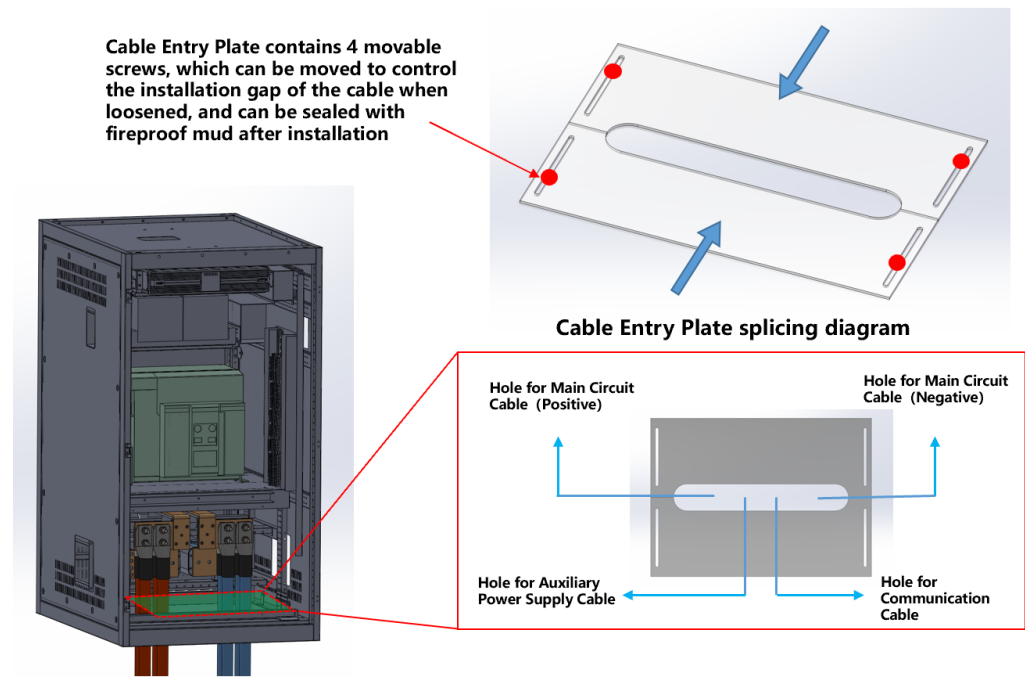

Figure 23: Cable entries of the SolBank with the “Cable Entry Plate”
- ✓ Step 3: Route cables to termination bus shown in Figure 23. Take special care to ensure correct polarity. Label cable as required.
(Note: Figure 23 provided recommended cable arrangement, the actual panel provided will be blank and could be drilled per cable entry onsite)
- ✓ Step 3: Pull auxiliary power cables from auxiliary power supply to SolBank via the location identified in Figure 23.
- ✓ Step 6: Pull communication cables from the project EMS (or other devices) to the SolBank via the location identified in Figure 23. Refer to the project specific network diagram, developed by the EOR, for interconnected devices and point-to-point wiring instructions.